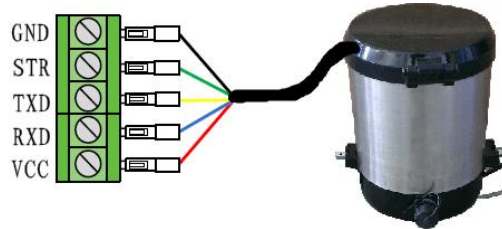

Figure 4.1 Split Type GPRS Module Wiring
- 1) Split type do the wiring in accordance with the identifications on GPRS module wiring terminals and the identifications on flowmeter (see Figure 4.1) to connect electromagnetic flowmeter to GPRS module. The step is not used to integrated type.
2) Use USB to connect GPRS module to computer (see Figure 4.1)